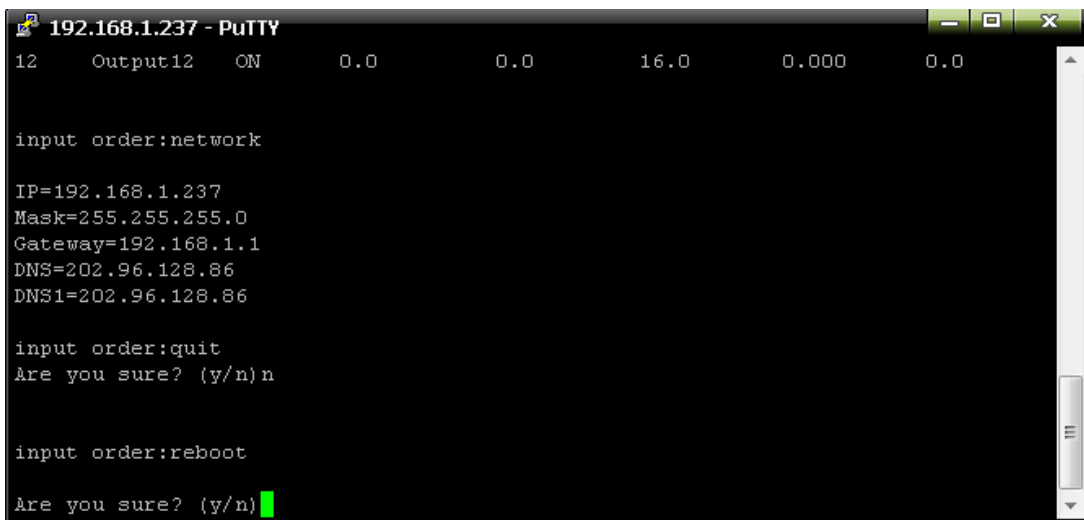

Figure 2-10
2.3.7 Reboot command: to restart to device as shown in figure 2-10